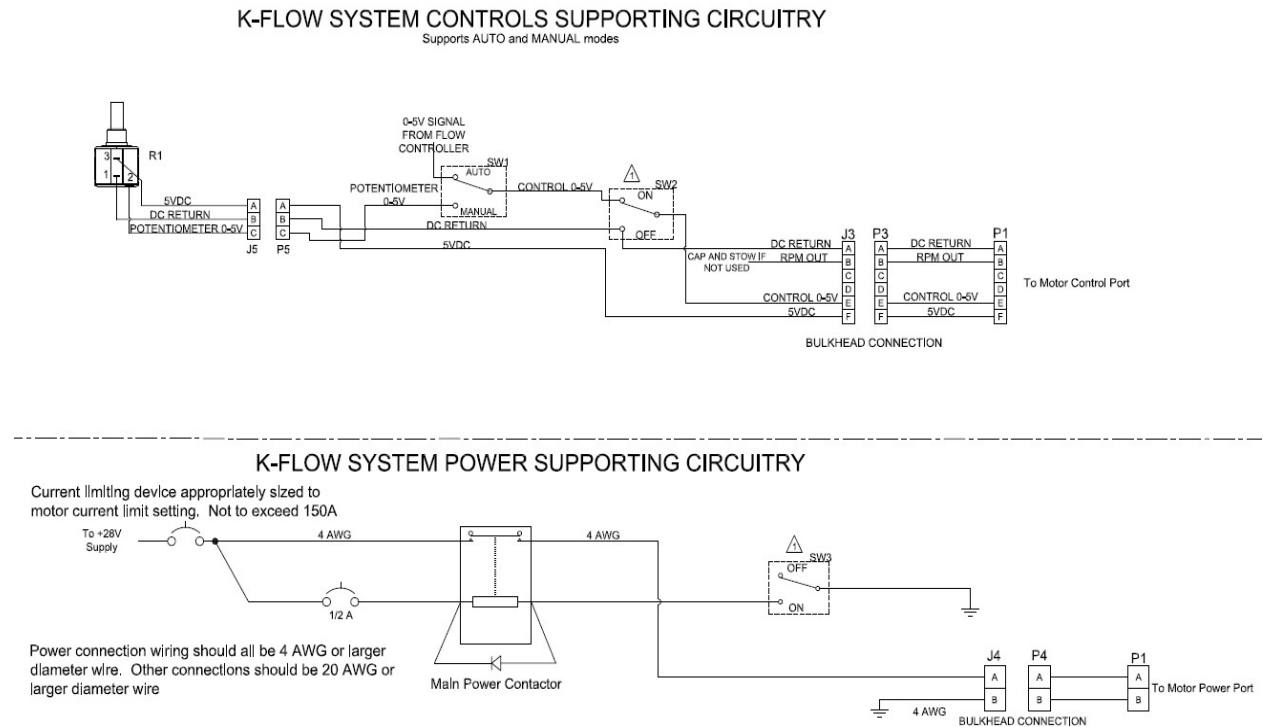

Figure 4: Circuit Diagram, Auto and Manual
Figure 4 shows typical electrical wiring configurations for variable and fixed speed installations. If this is a new application, please consult Kawak Customer Support regarding the need for any required ancillary electrical equipment.
Existing systems will have some combination of switches affixed to the cyclic for operation of the spray system, one of which is to turn the pump on and off. The simplest configuration is to use the existing pump switch for pump on/off and install a console mounted switch to toggle between auto and manual control. In manual mode, the 0-5 volt signal is provided via the potentiometer for motor speed control. The "Auto" position of the switch is for utilizing an external 0-5-volt source for controlling the motor speed/spray pump output. This would be used when the motor control signal is being supplied by a GPS system or other means of automatically modulating the pump output for constant or variable rate applications. Figure 4 below is a typical schematic for variable speed motor operation.
The below diagram (Figure 4) shows a basic control voltage input that is controlled by a potentiometer that modulates input voltage manually. The Auto/Manual switch selects between the manually adjusted control voltage (potentiometer) or and externally supplied control voltage (GPS, etc.) If using an external control, the external control system input must be 0-5V. The system must be conditioned if the system interfacing with the motor does not have the correctly formatted output. If 0-5V signal is unavailable, contact Kawak for further instruction.
***Where the Spray Pump Switch is SW2 in the figure 4 above.